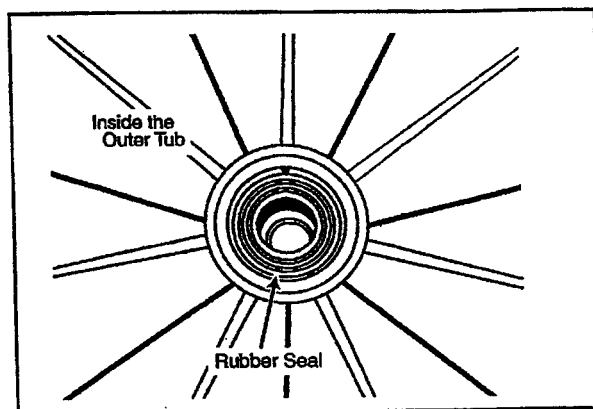

Figure 2-48
7. Remove the shaft seal (*Figure 2-48*).
4. Reach into the inside of the outer tub bearing area and remove the rubber seal. Discard both the steel seal washer and the rubber seal (*Figure 2-48*).